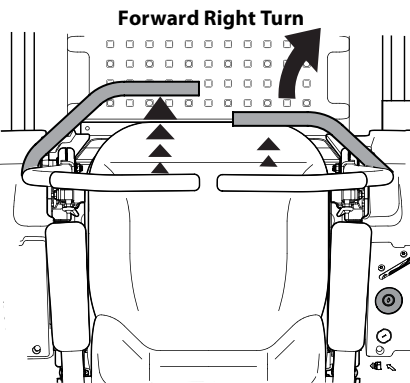

Figure 3-5
2. To turn to the right, move the right drive control lever rearward of the left lever. See Figure 3-5.